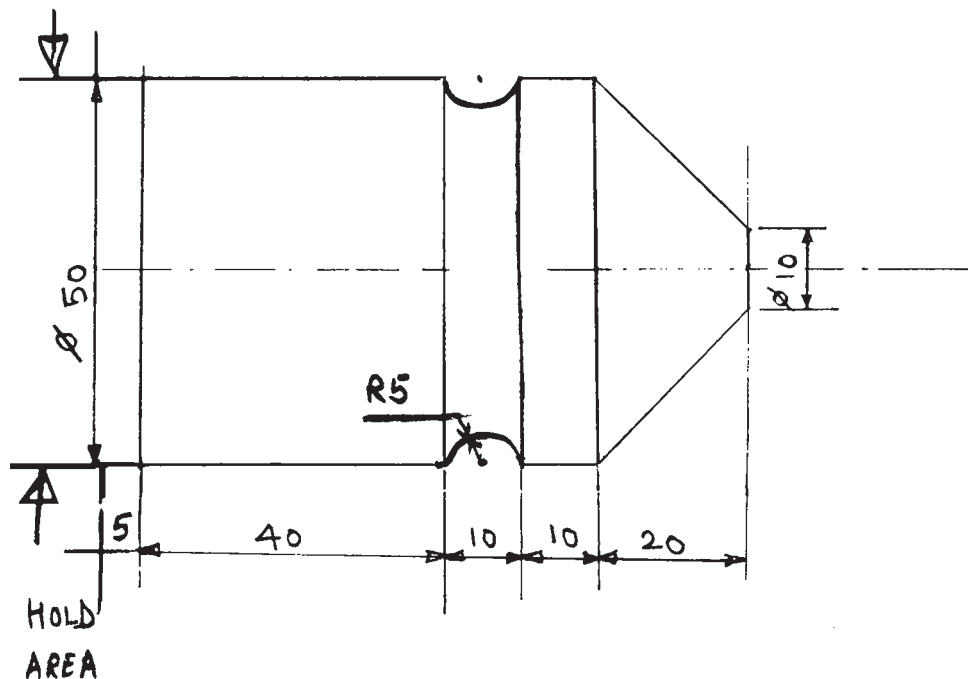

Fig. No. 1
- Write part program for a job as shown in Fig. No. 1. Take only finish cut. Spindle speed is 1200 rpm and feed rate is 150 mm/rev. Assume suitable machining data, if necessary.